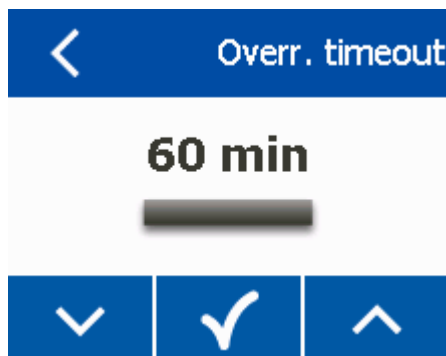

Fig. 84: Override timeout
The 'Override timeout' screen (Fig. 84) allows you to set a timeout period from 10 minutes to 90 minutes, in 1-minute increments. The default (factory) override timeout is 60 minutes. Override control is enabled as soon as you activate 'ventilation override' (§ 4.5.1 'Setting the volume flow rate' on page 84) or 'temperature override' (§ 4.5.2 'Setting a temperature set-point value' on page 85). When the override timeout has elapsed, the system returns to the setpoints of the schedule (§ 4.4.4 'Setting up schedules' on page 79). During the override timeout period the schedule is not active. Override timeout settings are of higher priority than any schedule. If someone makes changes to the ventilation or temperature override settings before the timeout period has elapsed, the timeout period will be reset.
- ⇒ The 'Override timeout' screen (Fig. 84) displays.
2. ▶ Use the ▼ and ▲ buttons (Fig. 84) to set the override timeout.
3. ▶ Click on ✓ (Fig. 84).